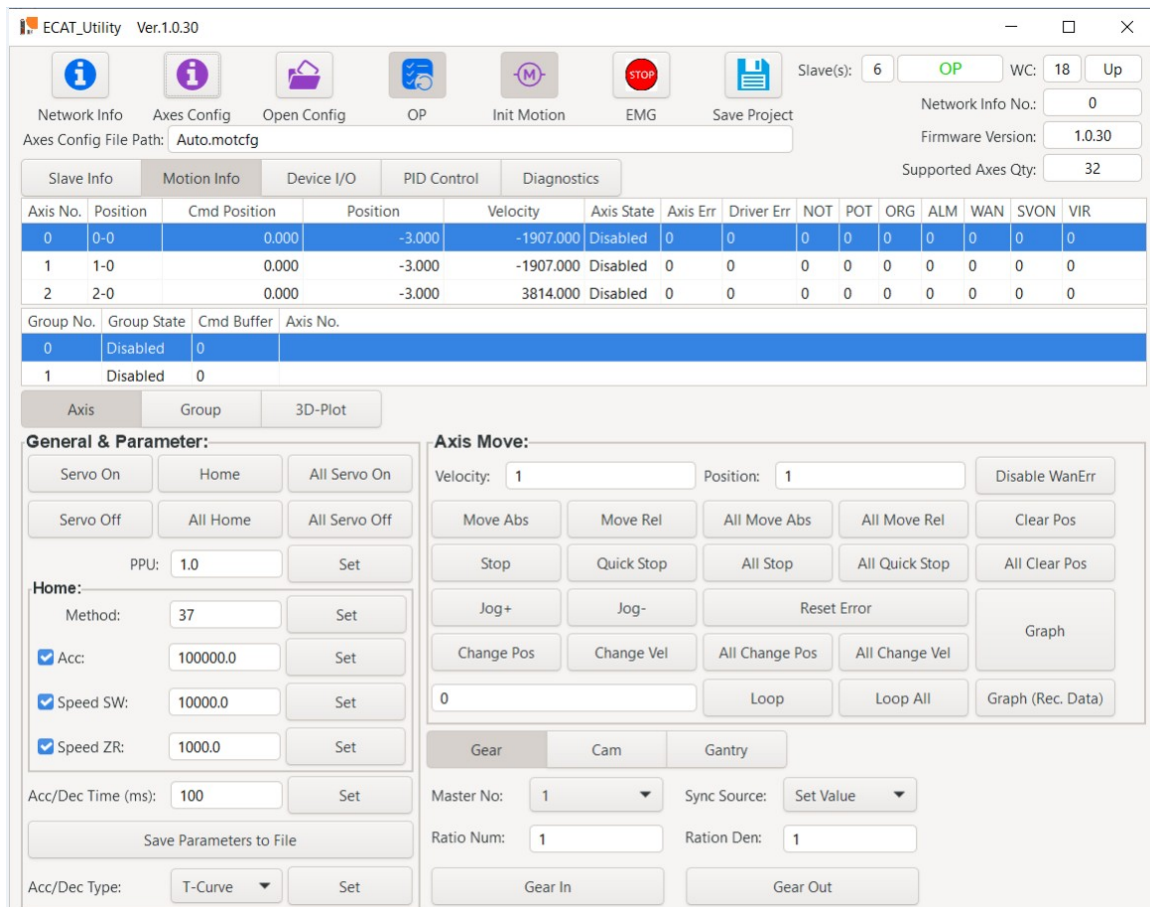

Figure 24: 'Motion Info' tab
- Click the '*Motion Info*' tab (Figure 24) to show the current status of each axis